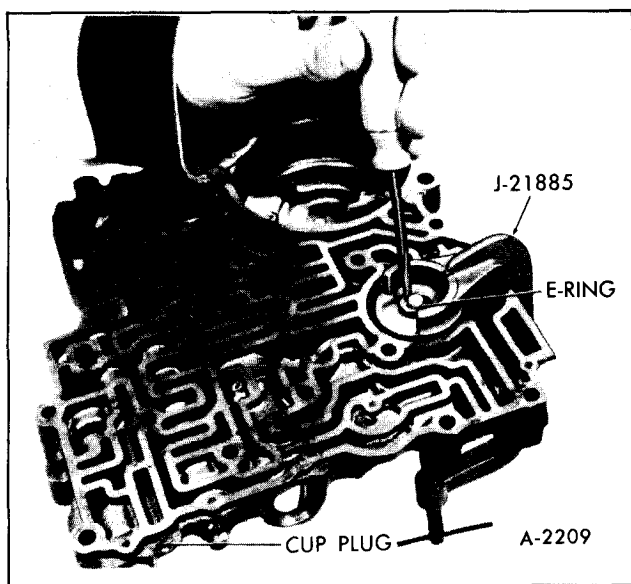

Figure 92—Removing Front Accumulator
staller, J-21885, on accumulator piston, compress piston and remove E-ring retainer, Figure 92.
20. Position front accumulator spring and piston into valve body and install Control Valve Accumulator Piston Installer, J-21885, on piston. Compress spring and piston, aligning spring and piston with bore, Figure 92.